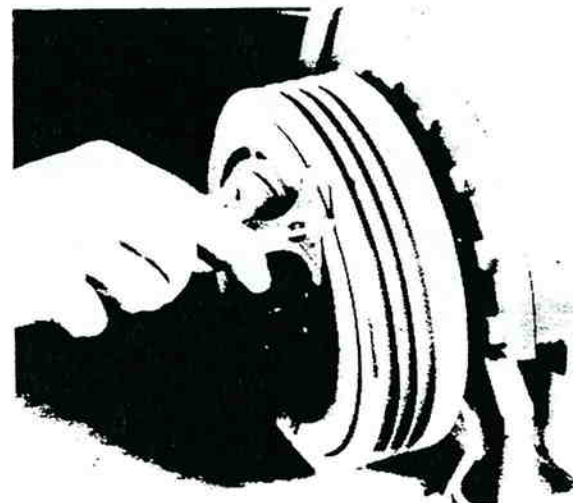

Figure 16-48: Armature-to-Rotor (Air Gap) Measurement
3. Using a depth micrometer, measure and record the distance from the back of the armature to the face of the rotor. See figure 16-48.
13. Using a depth micrometer, measure and record the distance from the back of the armature to the face of the rotor (air gap). See figure 16-48.